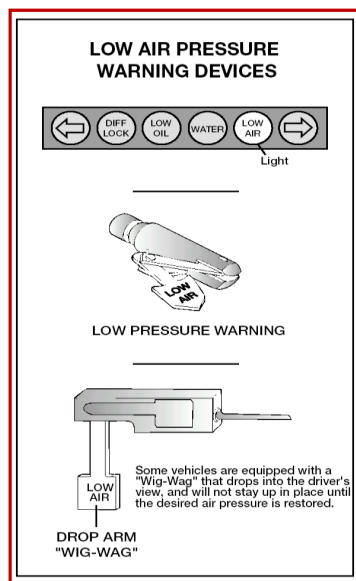

Figure 5.5
**Test Low Pressure Warning Signal.** Shut the engine off when you have enough air pressure so that the low-pressure warning signal is not on. Turn the electrical power on and step on and off the brake pedal to reduce air tank pressure. The low air pressure warning signal must come on before the pressure drops to less than 55 psi in the air tank (or tank with the lowest air pressure, in dual air systems). See Figure 5.5.